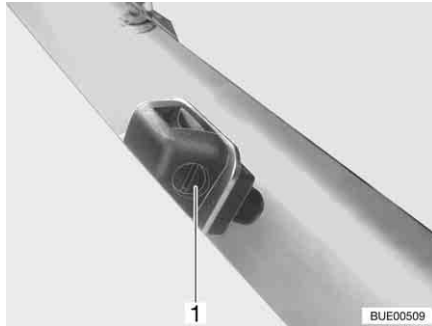

Fig. 30 Washer nozzle
- Use a suitable screwdriver to turn the adjusting screw (Fig. 30,1) until you reach the desired position.